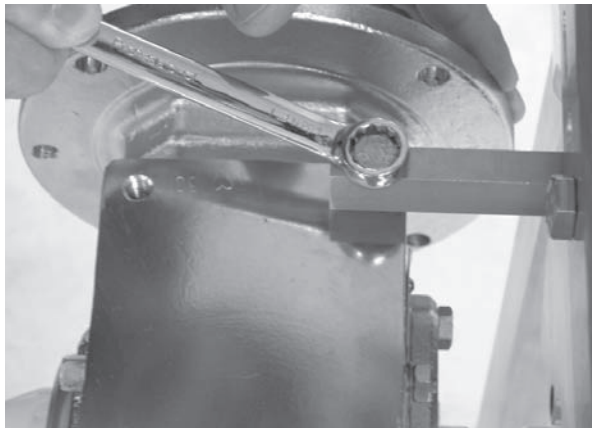

Figure 35
4. Attach the gearmotor assembly (**Figure 35, item 1**) to the gear reducer mounting posts (**Figure 35, item 2**).